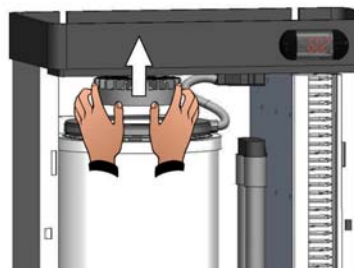

Fig. 31
4. Lift the upper steam flange releasing it from the cylinder (fig. 31).